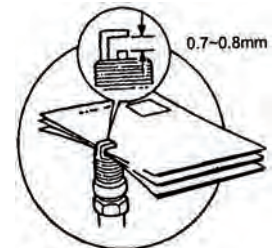

Figure 31
- 3) Measure the electrodes clearance. See Fig.31. The spark plug electrode clearance should be between 0.7-0.8mm. If the clearance exceeds 0.8mm, replace the spark plug with an CH F6RTC or equivalent (NGK BPR6ES, Champion RN9YC).